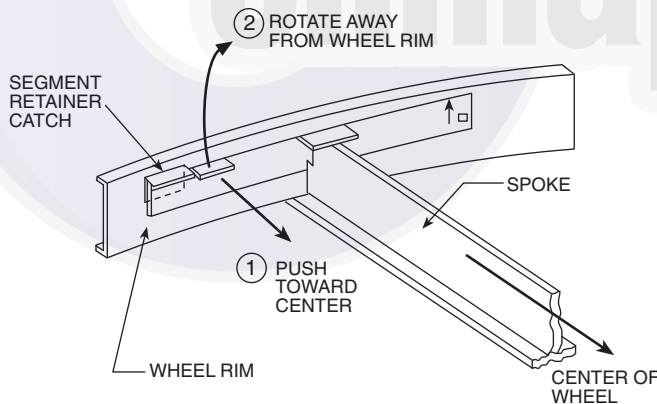

Fig. 160 — Segment Retainer
2. Before applying power to the drive motor, confirm that the wheel segments are fully engaged in the wheel frame and that the segment retainers are completely fastened. (See Fig. 160.)
4. If the wheel has difficulty starting, turn the power off and inspect for excessive interference between the wheel surface and each of the four (4) diameter seals. To correct, loosen the diameter seal adjusting screws and back adjustable diameter seals away from the surface of the wheel, apply power to confirm that the wheel is free to rotate, then re-adjust and tighten the hub and diameter seals according to the instructions in the Service section.